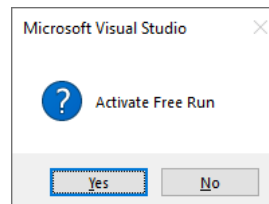

Fig. 6-26 Activating the “Free Run” operating mode
- In the next dialog window, click on **Yes** when asked whether “Free Run” operating mode should be activated (Fig. 6-26).